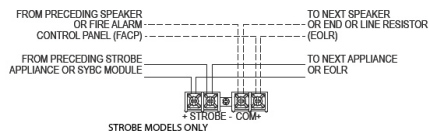

Figure 3
- Break all in-out wire runs on supervised circuits to ensure integrity of circuit supervision as shown in Figure 3. The polarity shown in the wiring diagrams is for operation of the appliances.